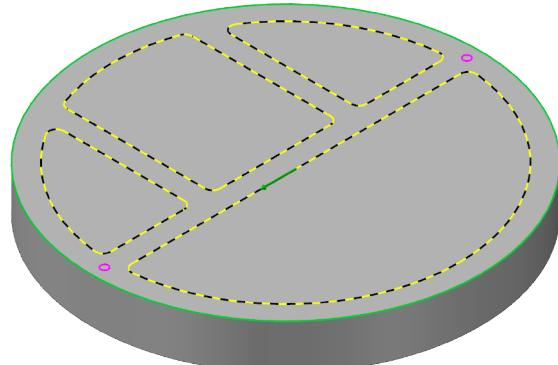

Fig. 31
Step 2. Click **any geometry of each pocket**, Fig. 31.